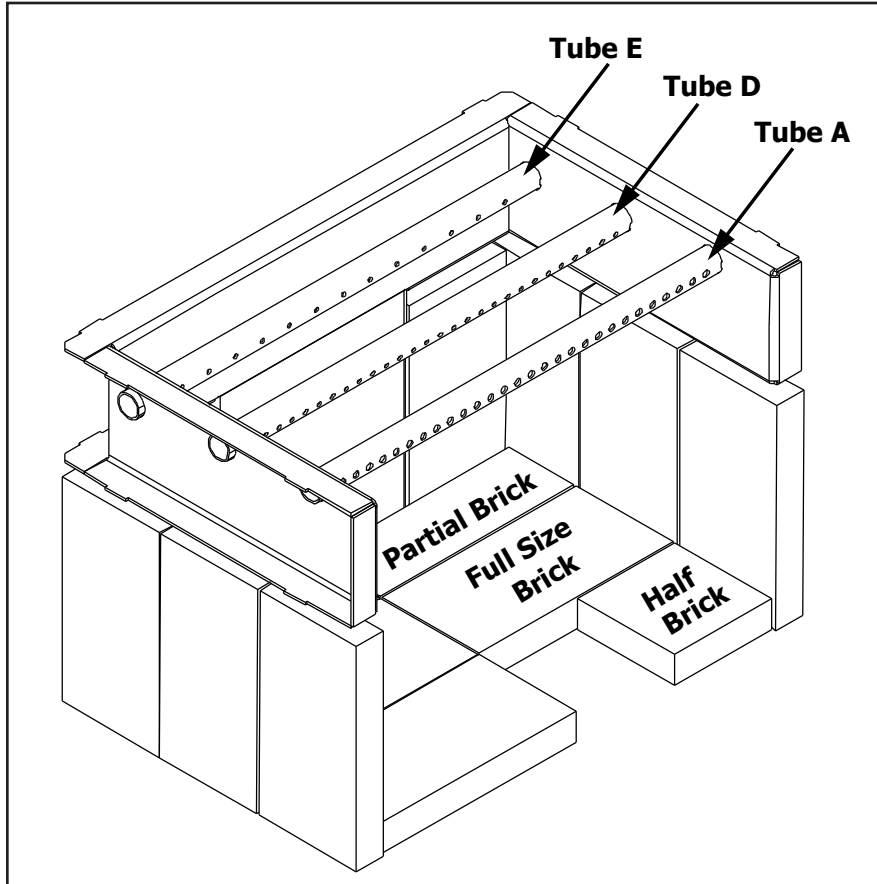

Figure 32: Brick Placement for 1200 shown with Secondary Air Channel and Tubes.
**Note:** If you are using a horizontal connector (refer to Figure 32), the chimney connector should be as high as possible while still maintaining the 18" (475 mm) minimum distance from the horizontal connector to the ceiling.